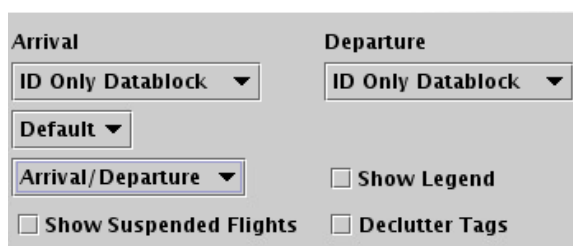

Figure 41. Show/hide the Map legend.
**Step 1:** Select the "Show Legend" checkbox to show the legend or deselect the "Show Legend" checkbox to hide the legend (Figure 41).